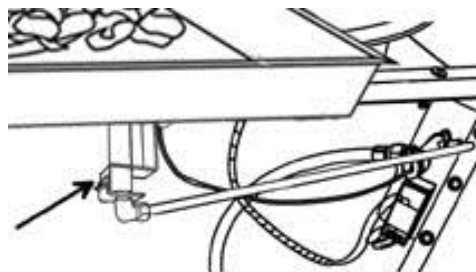

Figure 14
2. Disconnect the gas tube from the orifice and remove the orifice holder as shown in Fig .14.